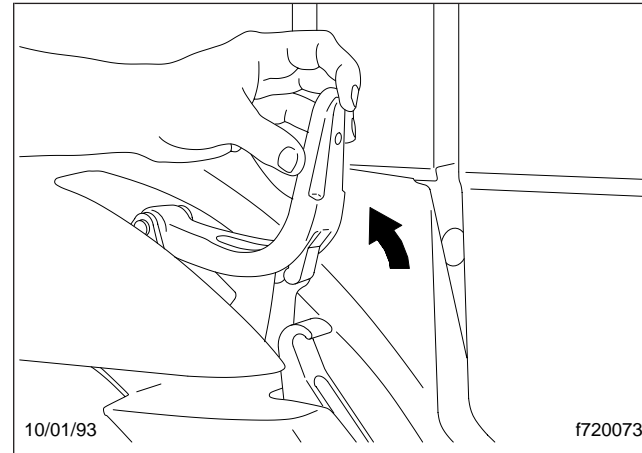

Fig. 2.19, Unlatch the Hood
2. Release both hood hold-down latches by pulling the ends up (**Fig. 2.19**).